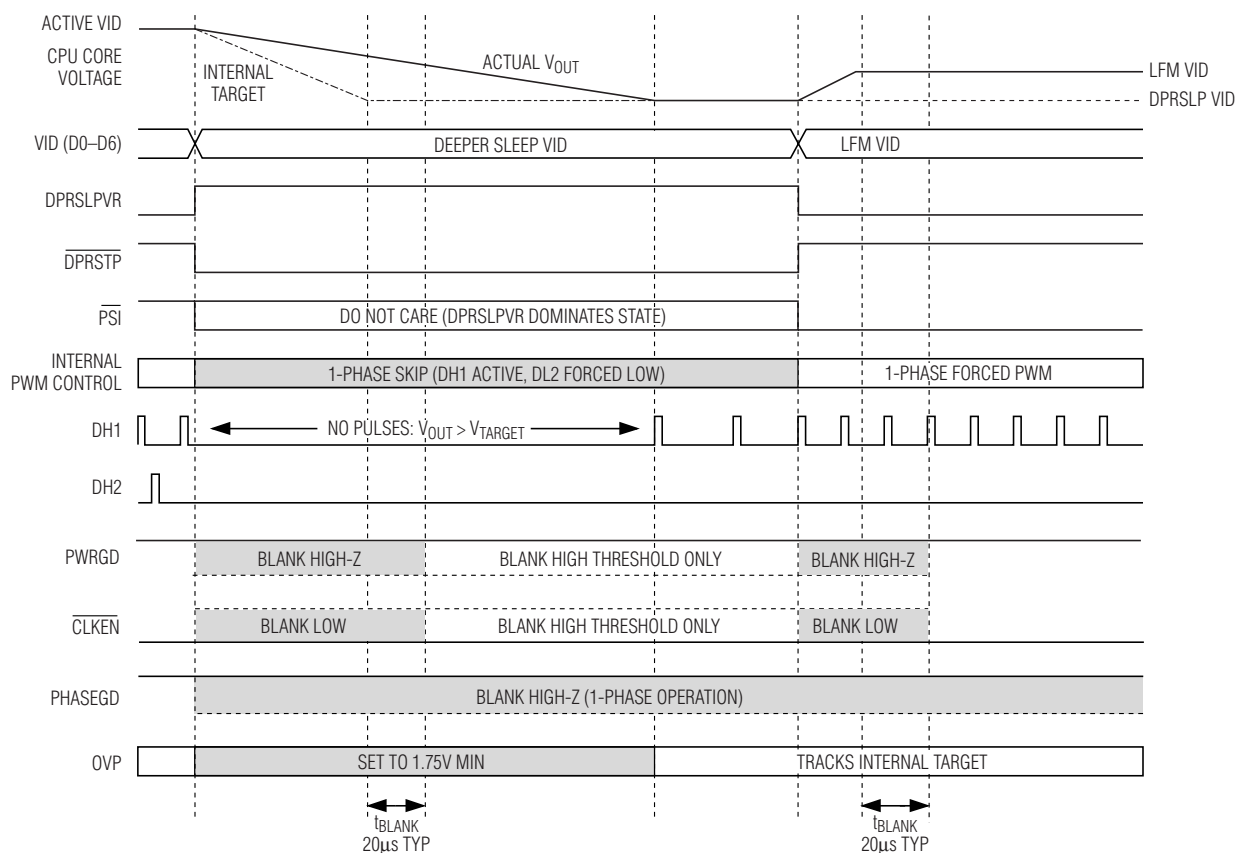

Figure 6. Slow C4 Transition
- Slow C4 Deeper Sleep Exit:** When exiting deeper sleep (DPRSLPVR high,  $\overline{DPRSTP}$  pulled high) while the output voltage is regulating to the deeper sleep voltage, the MAX8770/MAX8771/MAX8772 remain in 1-phase skip mode and ramp the output voltage to the LFM DAC code provided by the processor at 1/4 the slew rate set by  $R_{TIME}$ . The controller blanks PWRGD, PHASEGD, and  $\overline{CLKEN}$  (forced high impedance) until  $20\mu s$  after the transition is completed. See Figure 6.